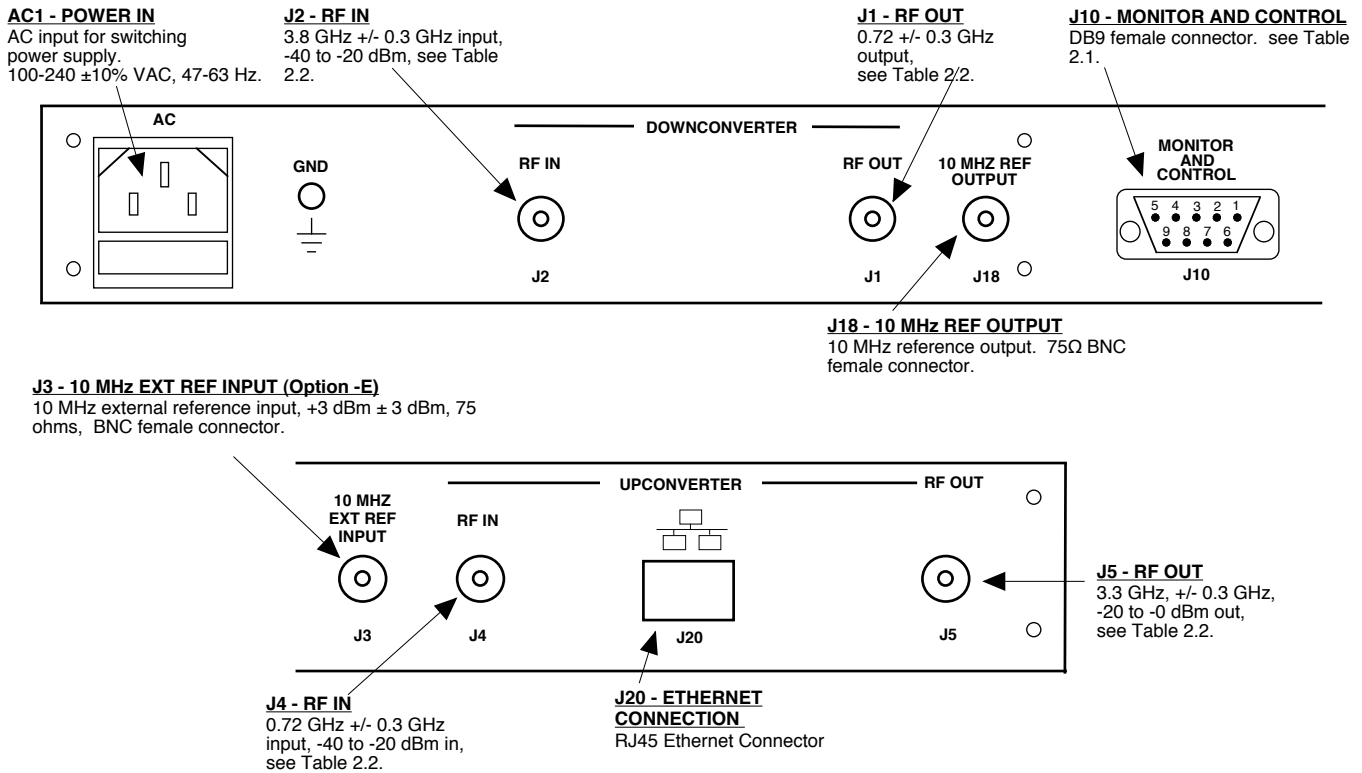

Figure 2.1 Model 3117-3338#-720 Rear Panel I/O's
- 1.) Connect a -40 dBm to -20 dBm signal to RF In, J4 (Figure 2.1).
- 1.) Connect a -40 dBm to -20 dBm signal to RF In, J2 (Figure 2.1).